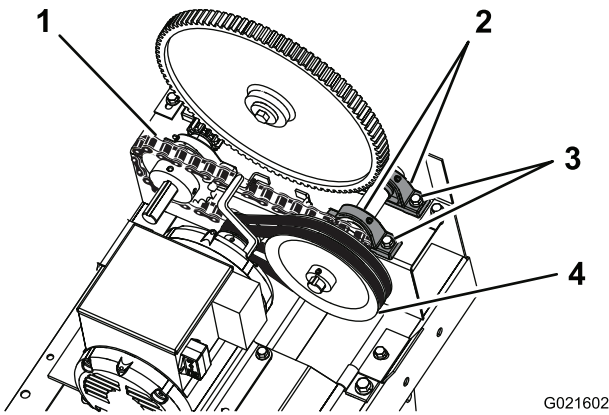

Figure 43
2. Loosen the nuts and bolts that secure the pillow-block bearings for the idler pulley (Figure 43).